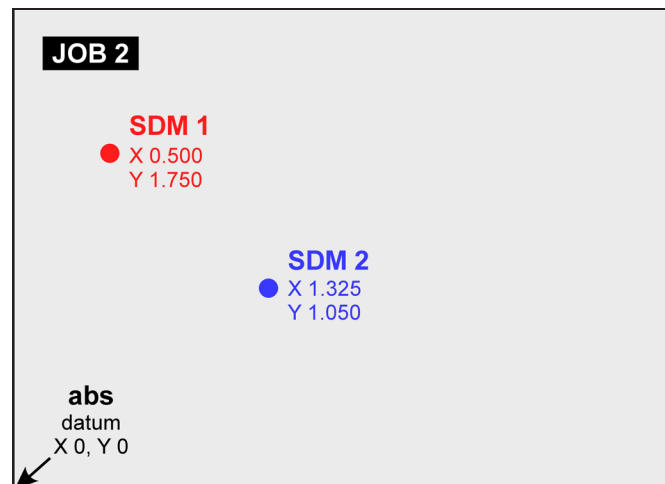

Figure 29 Job 2 with two SDMs
- To proceed to Job 2, Figure 29, press **NEW**. The screen comes up blank, except for the workpiece datum marker (black cross hairs) and the spindle marker (red cross hairs). For a better view, zoom the display to 8, 8 using the **▲▼** arrows.